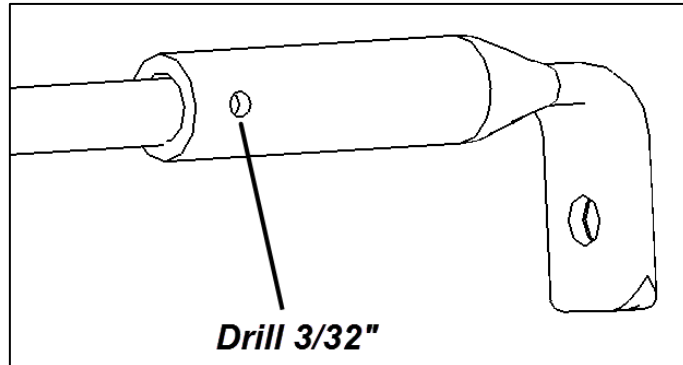

Figure 8:Location F
- 18) Once the support is secured, drill 3/32" trough guide rod using the existing hole in the support as drilling guide (Fig. 8).